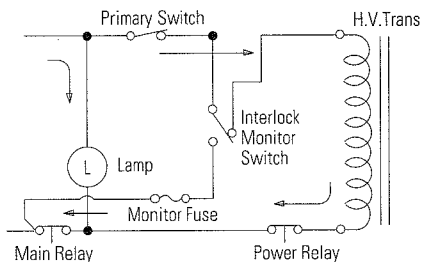
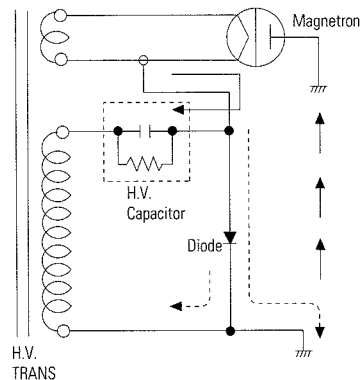

Fig. 1
Fig. 2
- (C) 230V~50Hz AC is applied to the high voltage transformer through the contacts of primary windings as shown by the solid line just after the power control relay turns ON. (Fig. 1)
- (D) 3.3V AC is generated from the filament winding of the high voltage transformer. This 3.3V is applied to the magnetron to heat the magnetron filament through two noise preventing choke coils.
- (E) High voltage of 2,220 volts AC is generated from the high voltage transformer secondary and this secondary voltage is increased by the action of the diode and the charging of the high voltage capacitor. This resultant D.C. voltage is then applied to the anode of the magnetron. As shown in the Fig. 2, the first half cycle of the high voltage produced in the secondary high voltage transformer charges the high voltage capacitor. The dotted lines indicate the current flow. During operation of the second half cycle, the voltage produced by the transformer secondary and the charge of the high voltage capacitor are combined and applied to the magnetron as shown in the solid line so that magnetron starts to oscillate. The interference wave generated from the magnetron is prevented by the 1.6mH choke coils, 500pF filter capacitors and the magnetron's shielded case so that TV and radio signals are not interfered with.